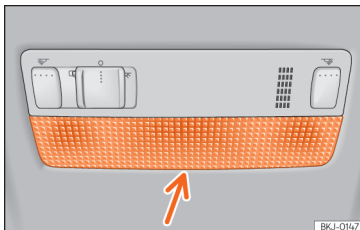

Fig. 168 Front reading light.
- Insert a fine screwdriver between the casing and the glass >>> **Fig. 168**.